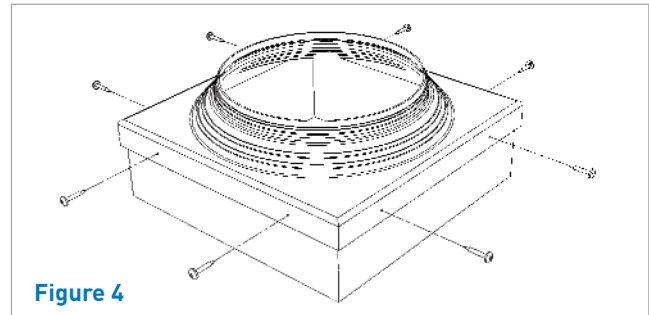

Figure 4
10. Finally, insert the fixings and tighten against the upstand, ensuring that they are secure but take care not to overtighten (Figure 4).